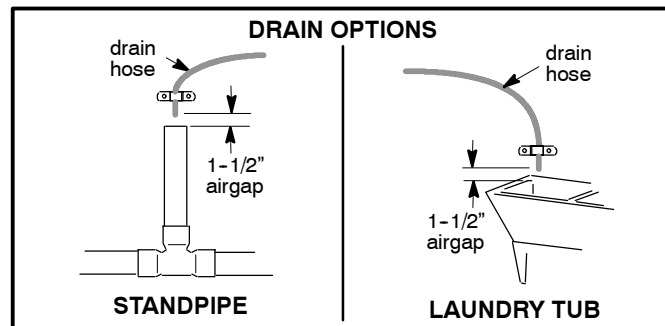

FIG. 1B
- A drain is needed for recharge discharge water. A floor drain is preferred, close to the EcoWater Systems conditioner/refiner. A laundry tub, standpipe, etc., are other options (See Figure 1B).